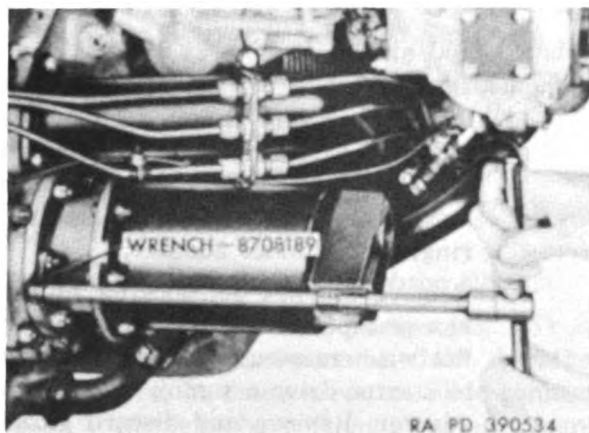

Figure 30. Removing or installing late model Eclipse-Pioneer starter.
(1) Remove six hex self-locking nuts (E, fig. 23) or hex stamped nuts and hex nuts, and flat washers securing starter to starter drive assembly using wrench 8708189 (fig. 30).
(2) Remove starter and remove and discard gasket.